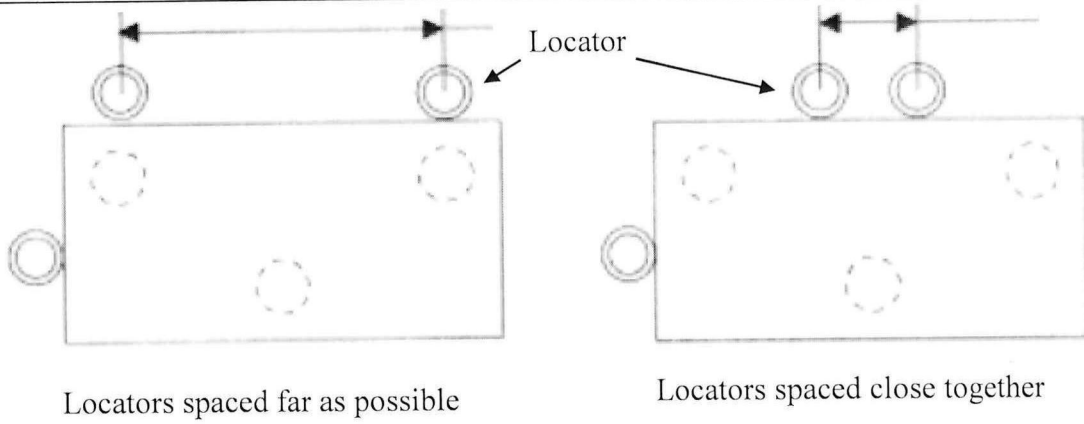

Figure Q1(d)
- Q1** (a) Work holding is one of the most important elements of the machining process. The term work holder includes all devices that hold, grip, or chuck a work piece to safely perform a manufacturing operation. To ensure the successful operation of a work holder, the work piece must be accurately located to establish a definite relationship between the cutting tool and some points or surfaces of the work piece. Describe **TWO (2)** locating principle for designing the jig and fixture. (2 marks)
- (b) Fool proofing is the process of positioning locators so a part will only fit in the work holder in its proper position. Analyze **THREE (3)** significance of fool proofing for designing the jig and fixture. (6 marks)
- (ii) Analyze **TWO (2)** primary method of locating work from a flat surface. (4 marks)
- (d) The use of ejector devices is important in jig and fixture. Ejector devices is important in **TWO (2)** situations there are when the workpiece is heavy and machining pressure forces the workpiece to the side or base of the jig or fixture.
- (i) Analyze **TWO (2)** advantages of ejector on jig and fixture. (2 marks)
- (ii) **Figure Q1(d)** shows **TWO (2)** methods of positioning the locators. Justify the best positioning method. (3 marks)
- (i) Construct **THREE (3)** purposes of a clamping device. (6 marks)